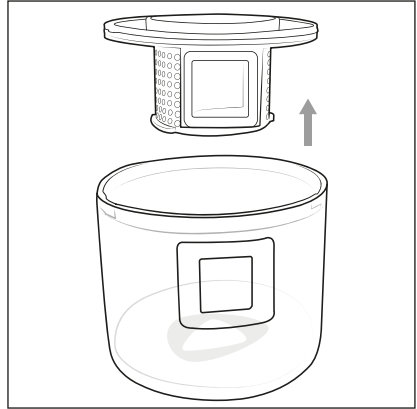

Fig. 6
- 3) Reach into the opening of the dust filter **6** and pull it out of the dust container **4** (Fig. 6).